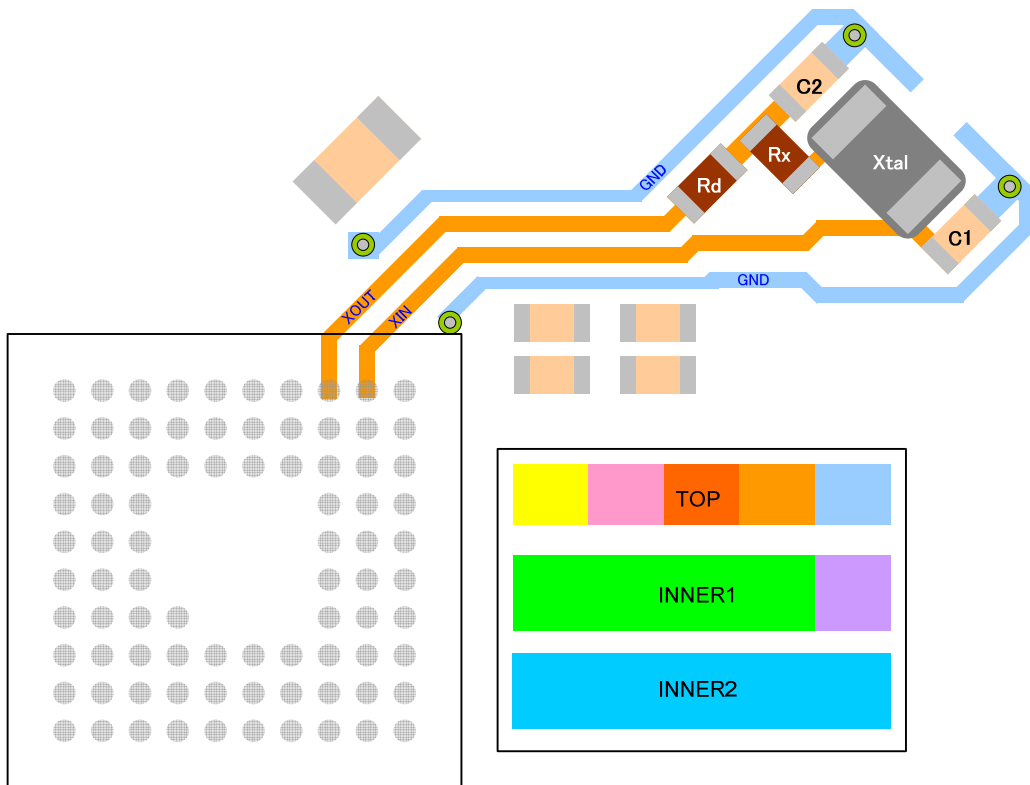

Fig. 1-7: Example of RTC Block Pattern
- (1) Place the crystal unit as close as possible to the RC5T619-0xxx, the route the line on the single layer without via as short as possible, and not add a redundant line like Monitoring Line.
- (2) Place the input and output capacitors (C1 and C2 shown in Fig.1-7) as close as possible to the crystal unit, in order to reduce the extra parasitic resistance and capacitance.
- (3) Draw Land Patterns for Rx and Rd previously, because an adjustment by adding Rx and Rd is required when the using oscillator exceeds its "Drive Level" specs.
- (4) Connect the GND of the oscillation circuit with special GND plane on the component layer, and then connect with the internal GND plane by via or through hole.